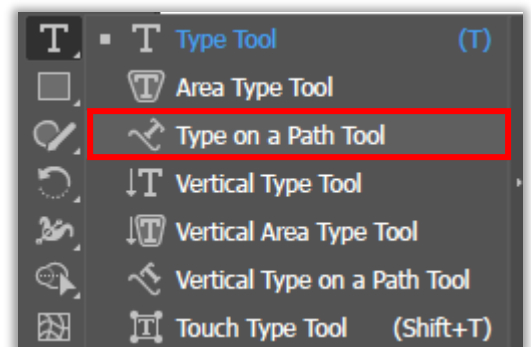

Figure 18: The Type Tool expanded, with the Type on a Path Tool outlined in red
2. Use the Type on a Path tool (**Figure 18**) to create text that follows a path (such as an arch)